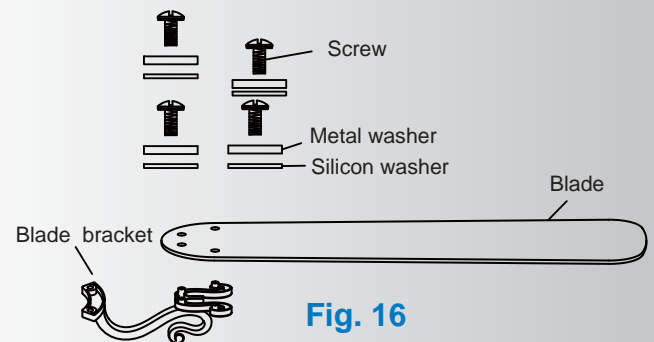

Fig. 16
Step 1 Attach the blade to the blade bracket using the screws, washers and fiber washers as shown in Figure 16. Start screw into bracket. Repeat for the three remaining screws.